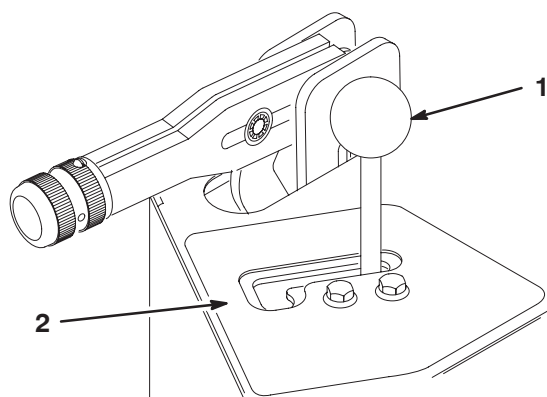

Figure 29
3. Loosen the capscrews and locknuts securing the lever guide (Fig. 29) to the valve shroud.